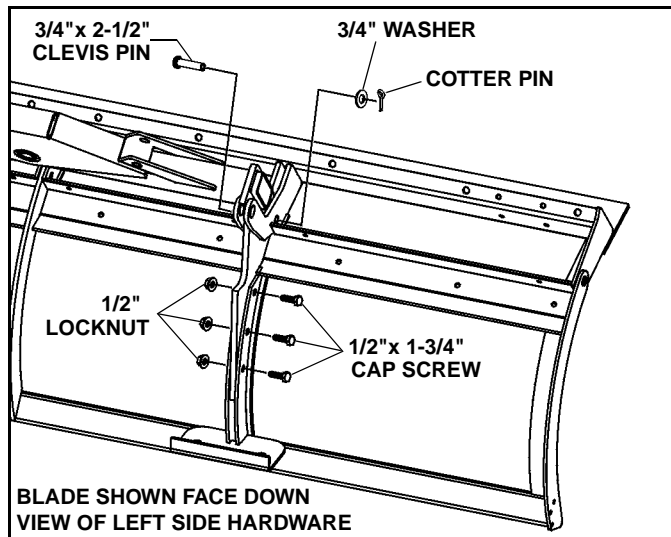

Figure 1-8
3. Assemble swing frame to blade (See Figure 1-8):